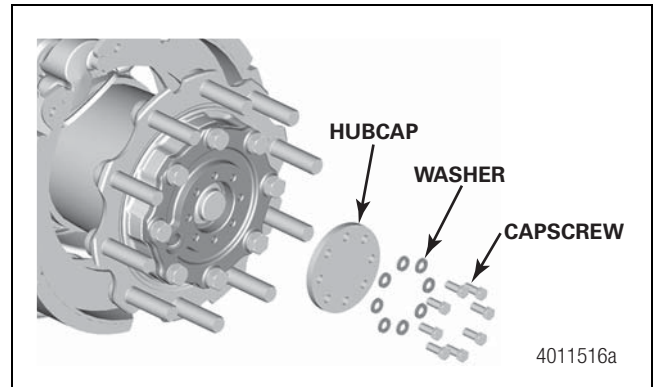

Figure 4.5
3. Remove the capscrews and washers that connect the hubcap to the drive flange. Remove the hubcap. Figure 4.5.